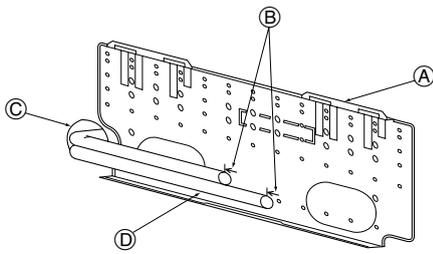

Fig. 3-5
① Fasten a thread to the hole.
② The level can be easily obtained by hanging a weight from the string and aligning the string with the mark.
3.3. When embedding pipes into the wall (Fig. 3-5)
- (A) Mount board
- (B) Reference marking for flare connection
- (C) Through hole
- (D) On-site piping